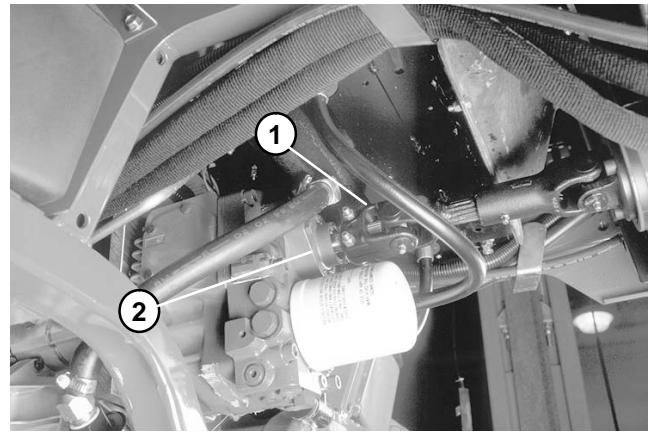

Figure 82
2. Remove the transmission to engine driveshaft (Fig. 82).